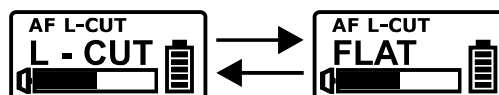

Fig. 13
(B) AF L-CUT: AF Low-Cut Setting. Fig. 13
- (1) Select L-CUT or FLAT.
- (2) L-CUT: the frequency response at 100Hz will decrease about 3dB with a slope of -6dB/Octave.